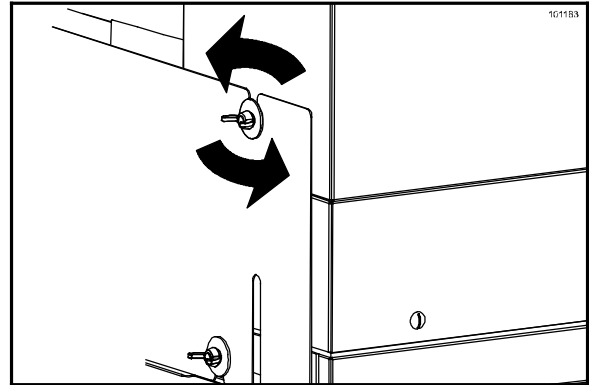

Figure 81
27. Wearing protective gloves, loosen the wing nut from the rear panel of the box that supports the lid holders. (See Figure 81.)